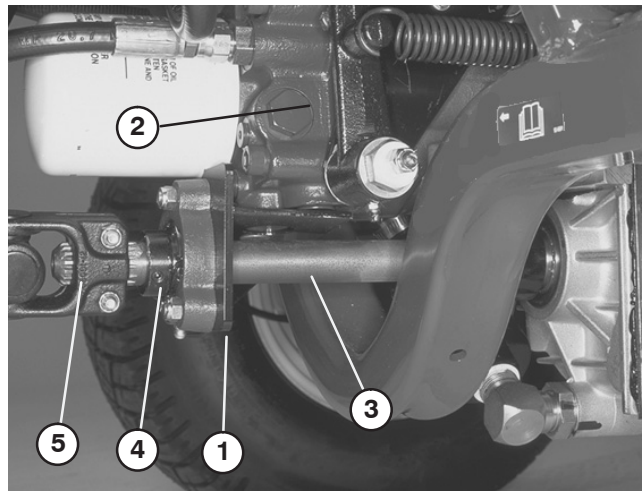

Figure 9
6. Mount bearing assembly to bearing bracket with (3) 5/16 x 1–1/4" lg. carriage bolts and 5/16 – 18 locknuts, as shown in figure 9.